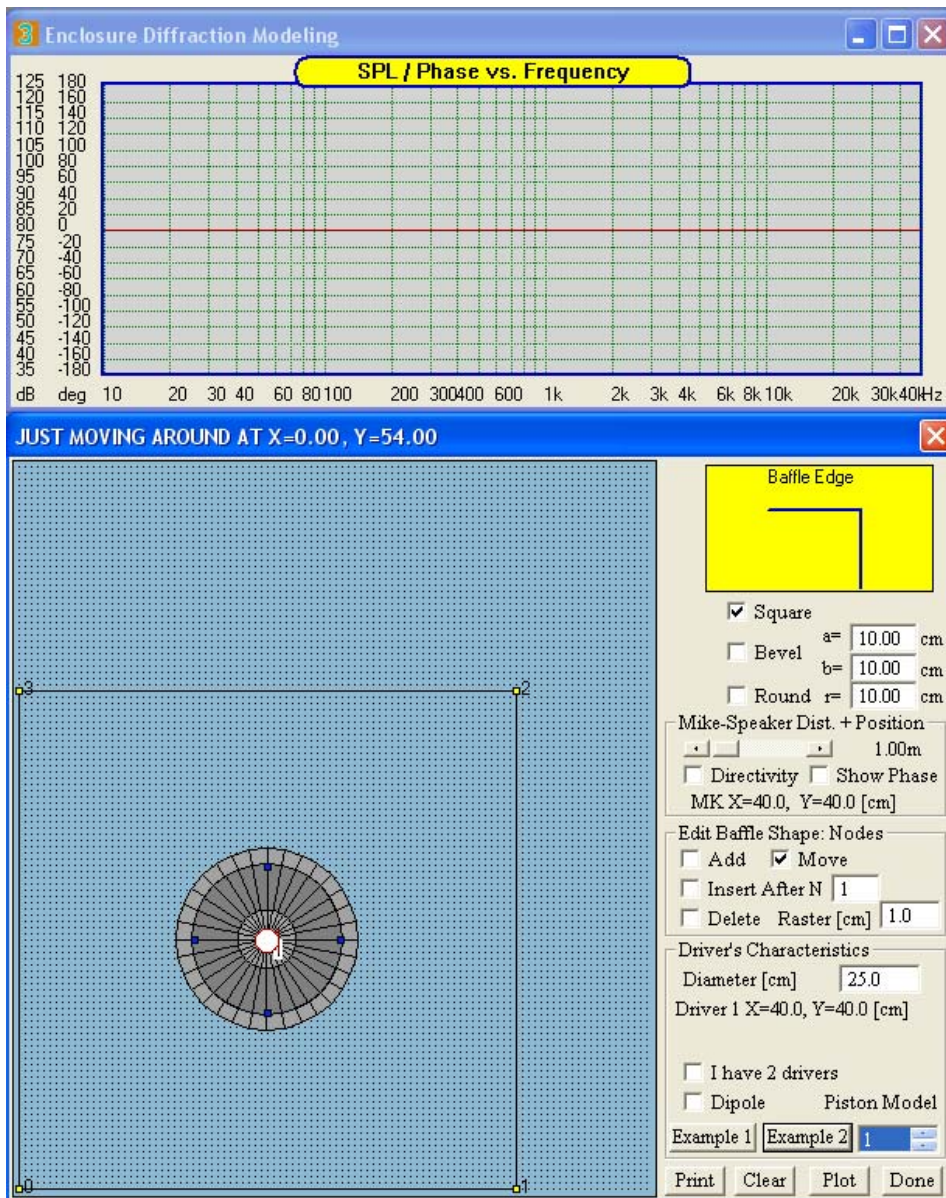

Figure 42. Diffraction Model dialog and plot screen.
- From the *Driver Files* menu select *Diffraction Model*. The *Diffraction Model* dialog and plot screens will open and appear as shown in Figure 42.